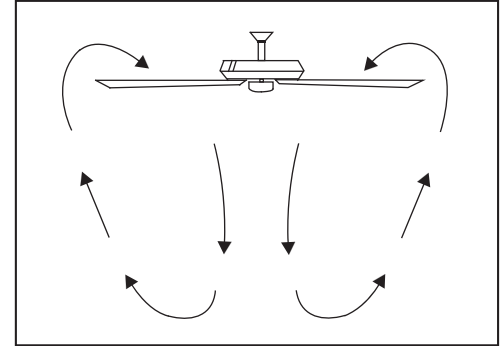

Figure 16
**Warm weather** - (Counter-Clockwise direction) A downward air flow creates a cooling effect as shown in Figure 16. This allows you to set your air conditioner on a higher setting without affecting your comfort.